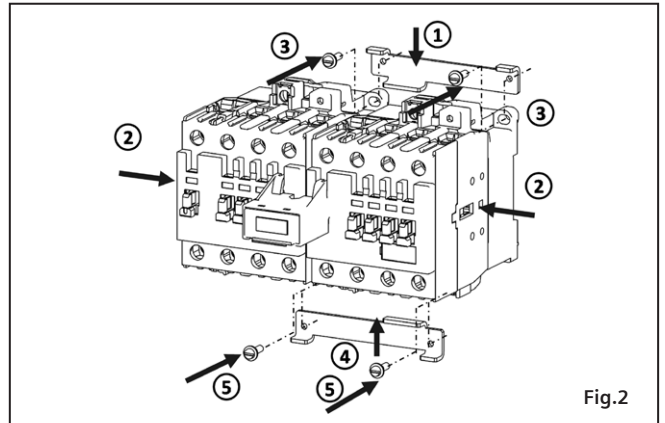

Fig.2
- Place Position link from Top (Fig. 2 step 1)
- Push both Contactors close to each other (Fig. 2 step 2) & check the matching of 2x holes of Position link with Contactor mounting holes.
- Fix the 2x screws given in the kit (Fig. 2 step 3) (Torque 0.7-1.2 N-m).
- Repeat the above steps to mount another Position link from bottom. (Fig.2 step 4 & 5)